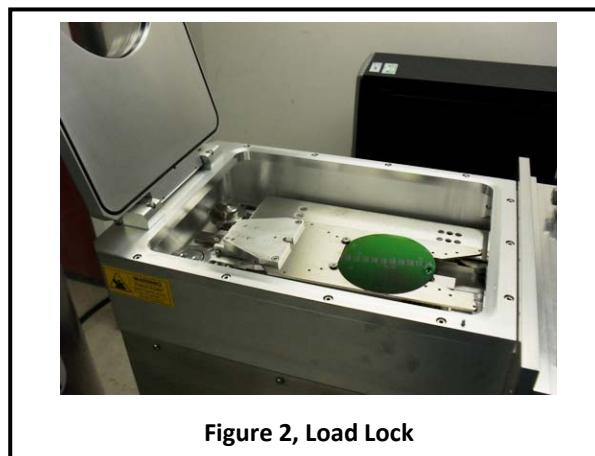

Figure 2, Load Lock
| Figure 2, Load Lock..... | 3 |
- 6.8.3 Place wafer in load lock against the two pins on the transfer arm with the wafer facing the two pins. The wafer should touch the two pins. See *Figure 2, Load Lock*.